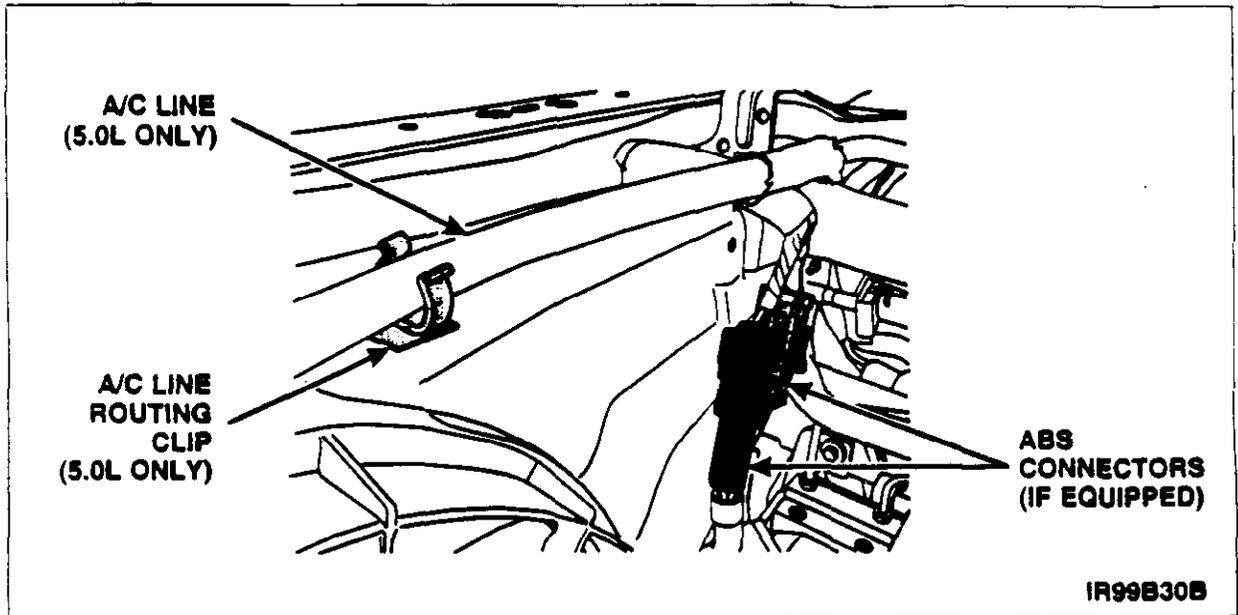

FIGURE 2
9. Disconnect the two (2) Anti-Lock Braking System (ABS) connectors, if equipped, then detach the connectors from the top of the fan shroud. See Figure 2.
10. Detach the A/C line from the routing clip at the top of the fan shroud (5.0L engine only). See Figure 2.